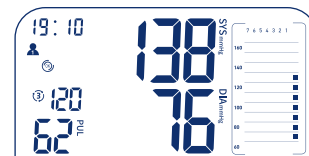

Figure 8
- At the end of the measurement, the result is shown in the display. A bar chart appears on the right of the display showing the results of the individual measurements. The current measurement is displayed in the right-hand column. (Figure 8).
- There is an interval of two minutes to prevent the blood flow in the arm from being interrupted for too long. A clock counts down from 120 seconds to 0 next to the triple measurement symbol (Ⓢ) (Figure 8).